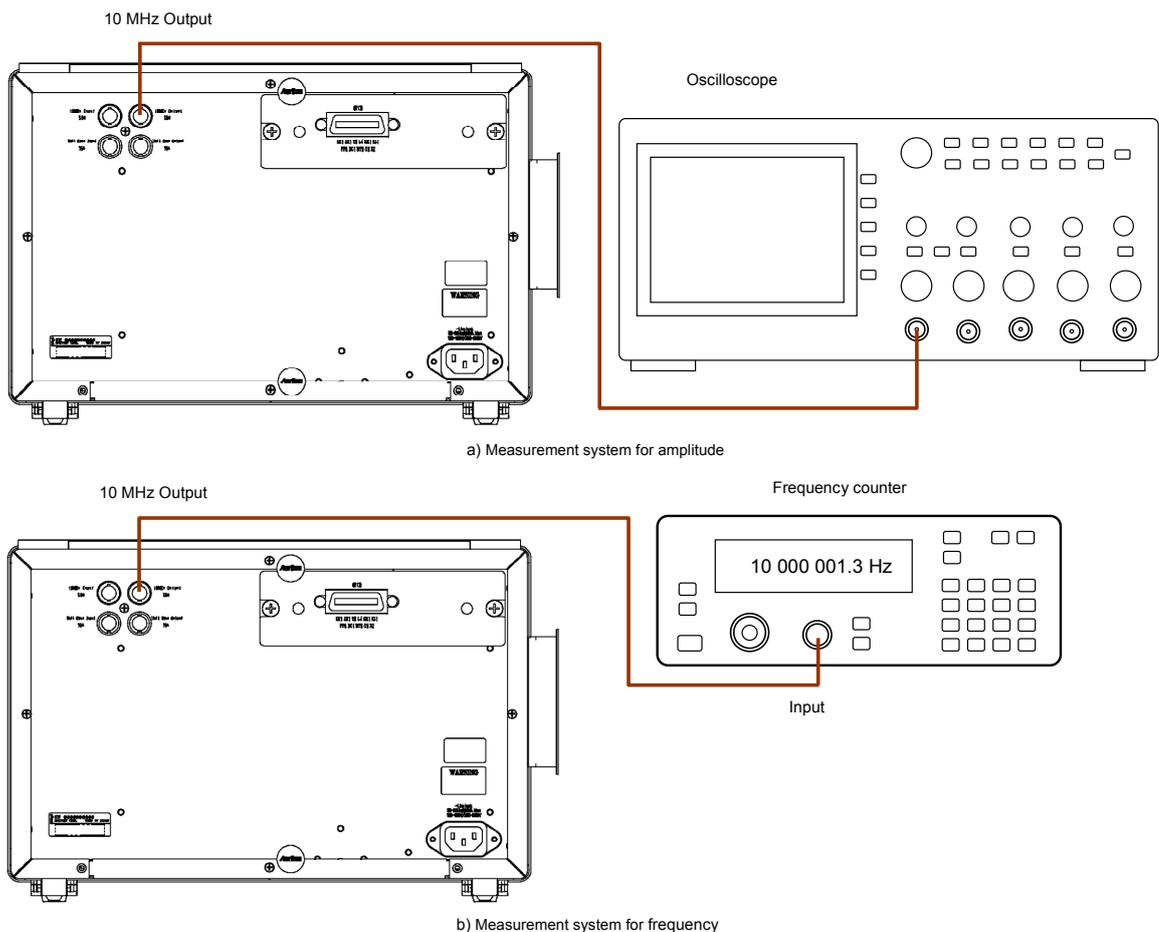

Figure 8.4-1 Measurement System for 10 MHz Output Terminal
1. Connect the 10MHz Output terminal at the rear panel of the MD1260A and the oscilloscope (Figure 8.4-1 a). Set the impedance of the oscilloscope to 50 Ω .
9. Connect the 10 MHz Output terminal and the frequency counter at the rear panel of the MD1260A (Figure 8.4-1 b).